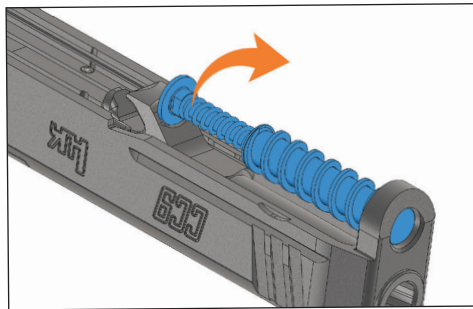

Figure 17 – Removing the recoil spring
4. Turn the slide upside down and carefully push the recoil spring forward and upward, separating the recoil spring from the barrel and slide (see Figure 17).